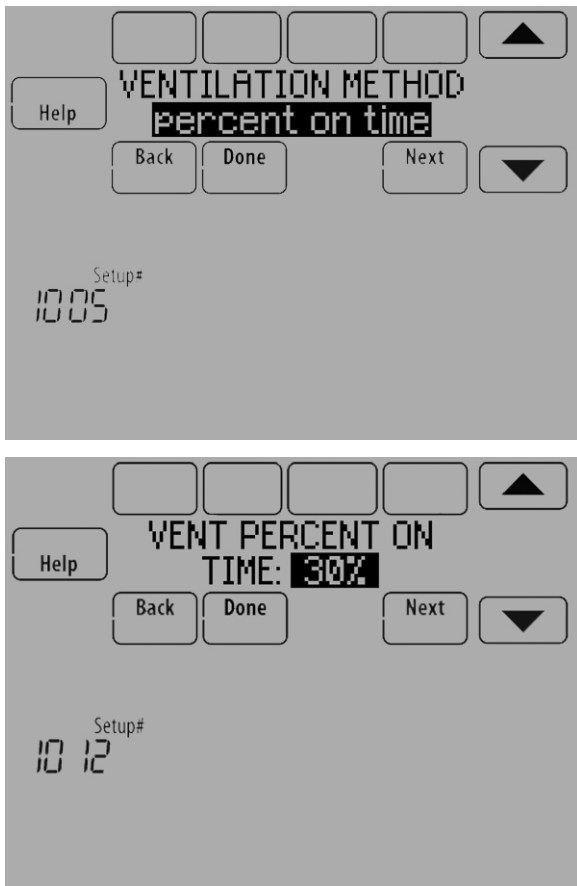

Fig. 233.
- If Percent On Time was selected for ISU 1005, select the Ventilation Percent on Time. See Fig. 233.